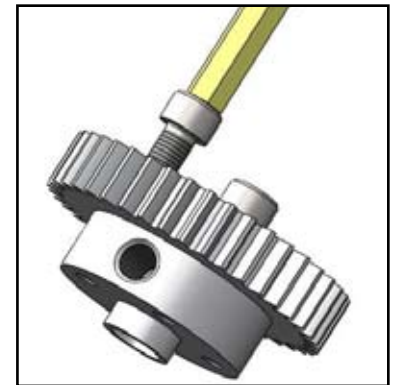

Figure A11
1) Attach a 40-tooth gear to a motor hub using four 1/2" SHCSs (Figure A11). If you think the screw heads might rub against other parts, you can use BHCSs instead.